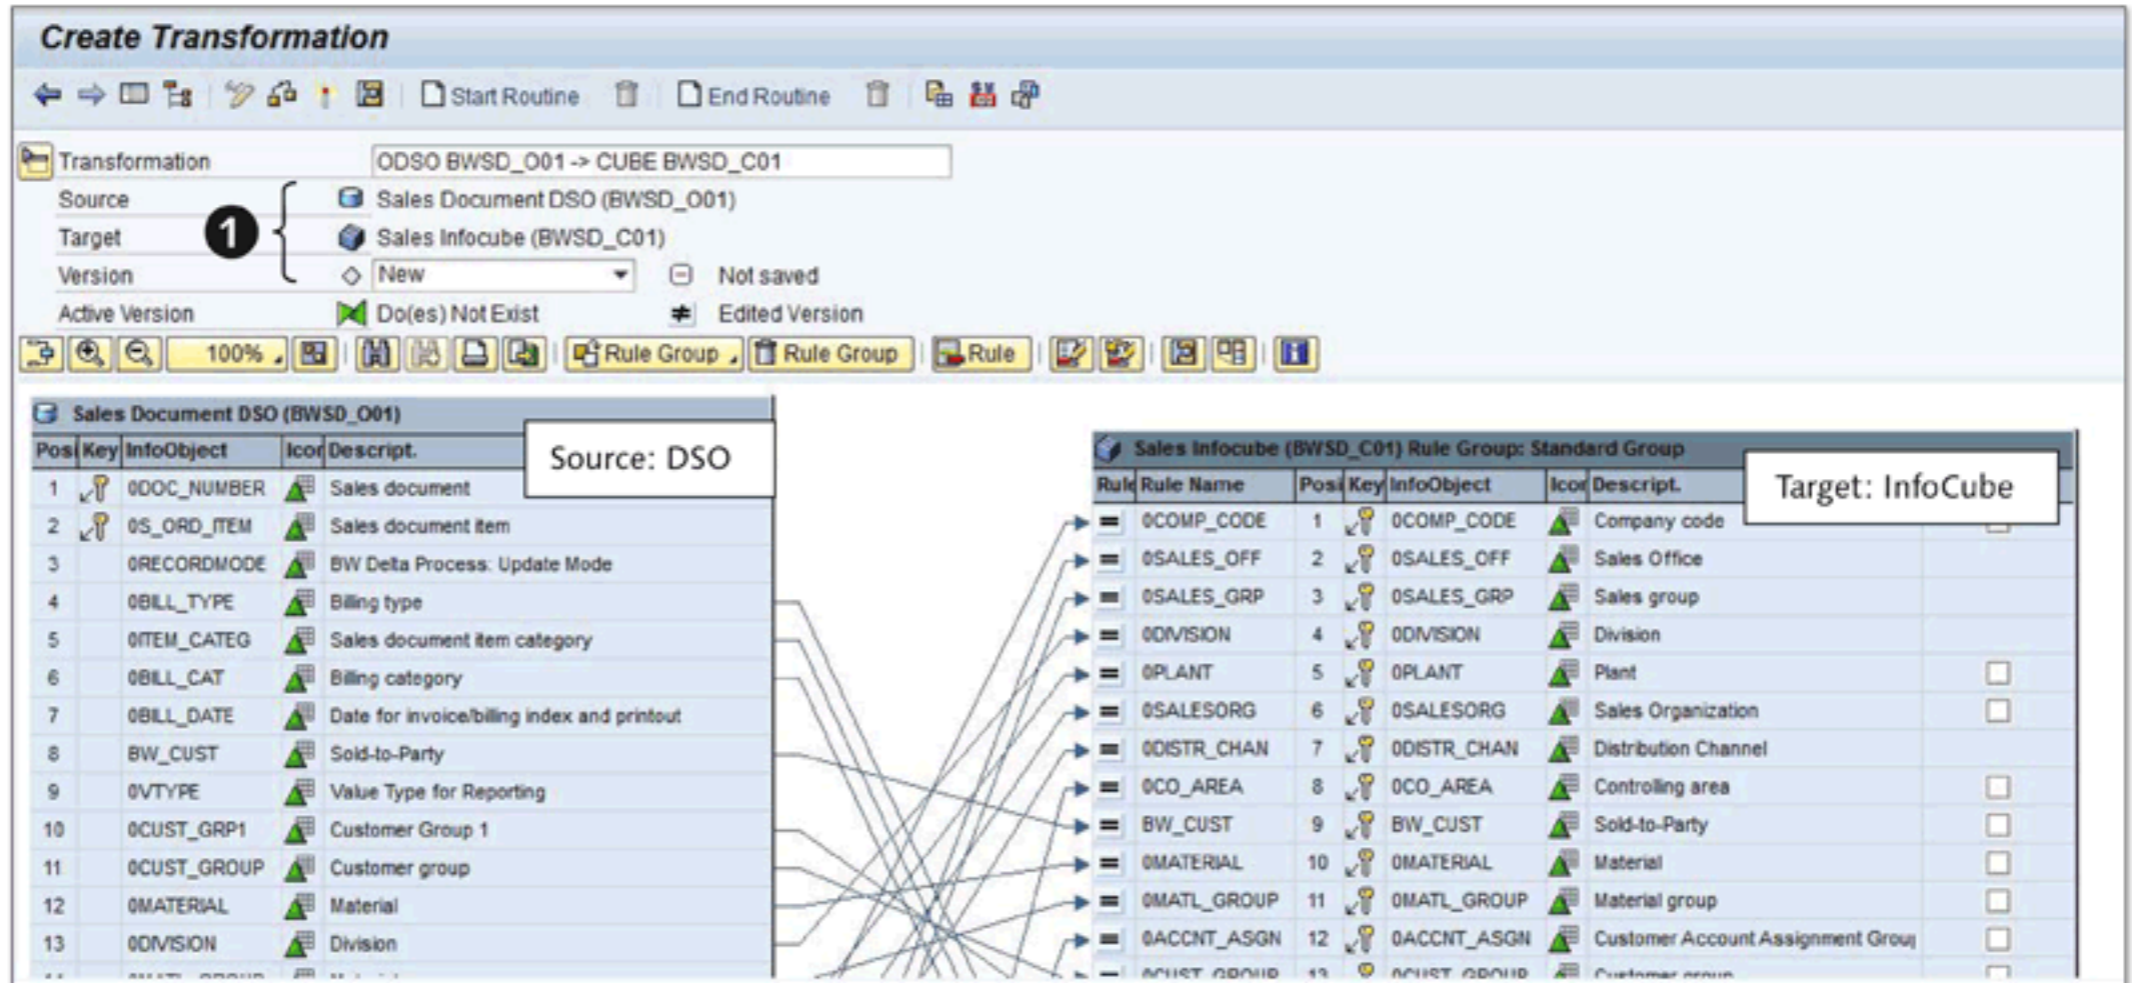

Figure 7.71 Transformation Screen
Click on the CONTINUE icon (❸), which displays the TRANSFORMATION CREATE screen in Figure 7.71. The source (Sales Document DSO BWSD_001) and target (Sales InfoCube BWSD_C01) objects are displayed as shown in ❶ of Figure 7.71.